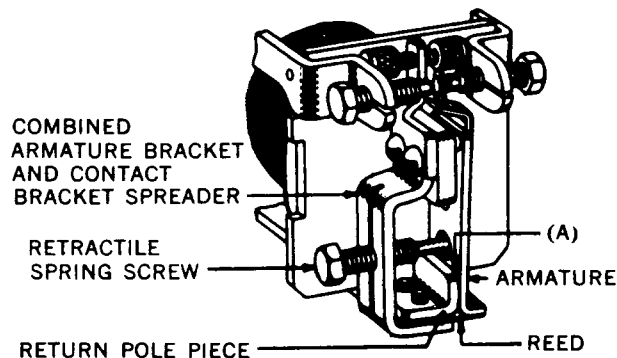

Fig. 3 - Relay Equipped with Reed-type Armature
- 2.12 Base Gap (Readjust Only): Fig. 3(A) and 5(A) - The gap between the armature and return pole piece, measured at the closest point, shall be